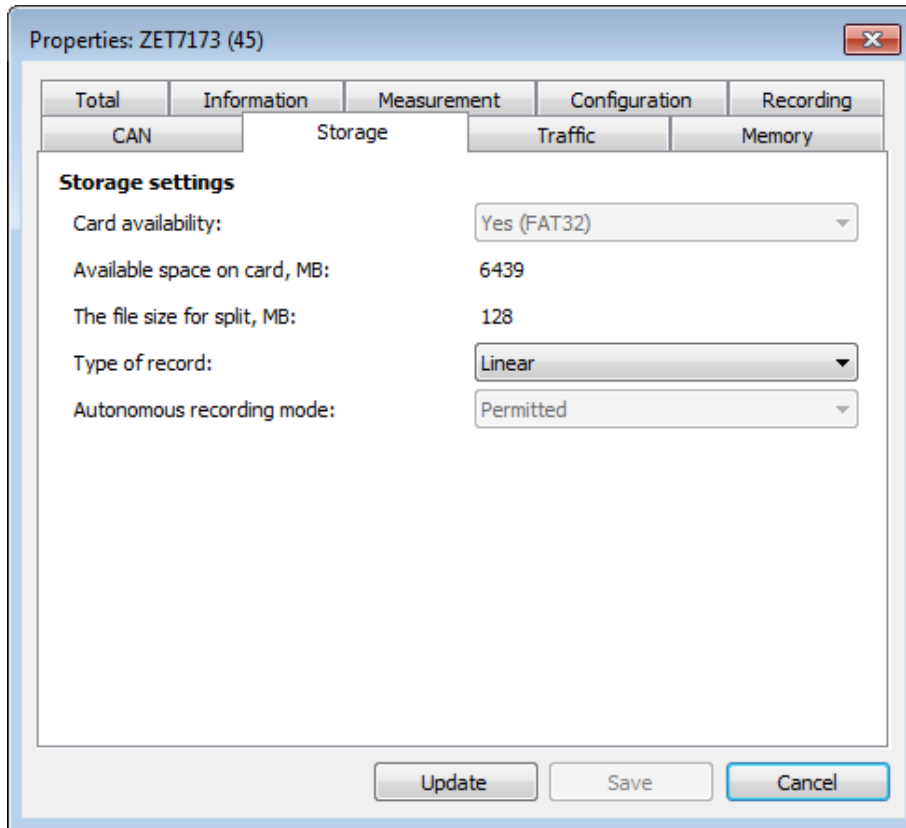

Figure 2.15 ZET 7173 “Storage” tab
- select “ Linear ” property in the field “ Type of record ” of the “ Storage ” tab (Figure 2.15).